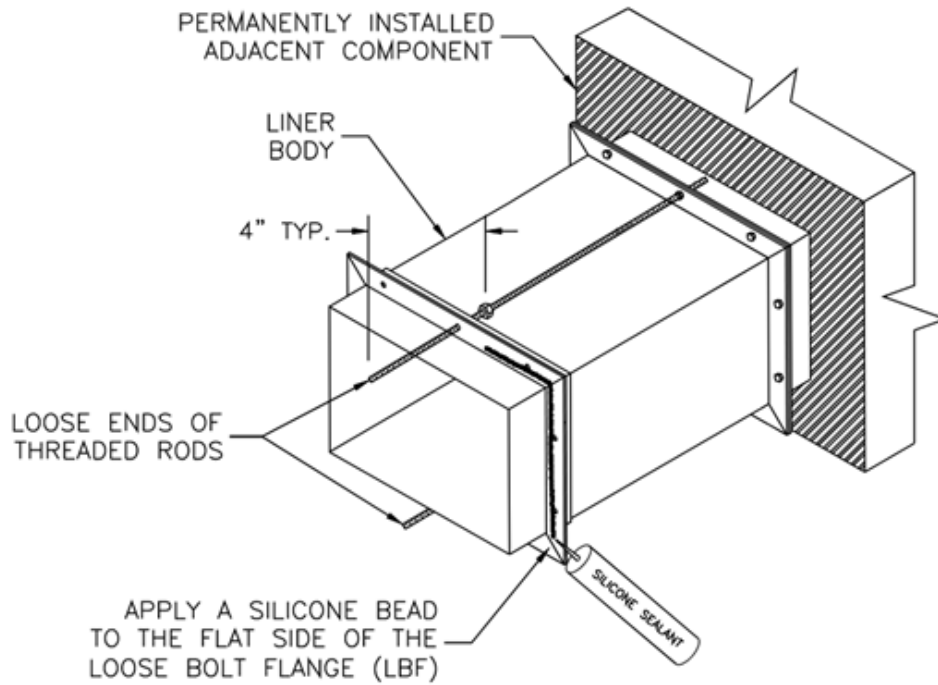

Figure 7: Slide the Loose Bolt Flange over the Liner Body and apply a bead of silicone.
12. Place a bead of silicone on the flat side of the LBF all the way around. (See figure 7)